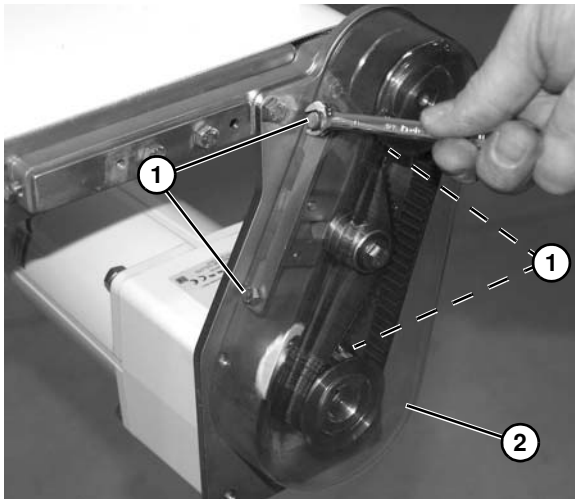

Figure 61
Figure 61 through Figure 64 shown tensioning procedure for a timing belt. Tensioning a timing chain is similar except as noted.
1. Loosen four (4) screws (**Figure 61, item 1**) and remove cover (**Figure 61, item 2**).